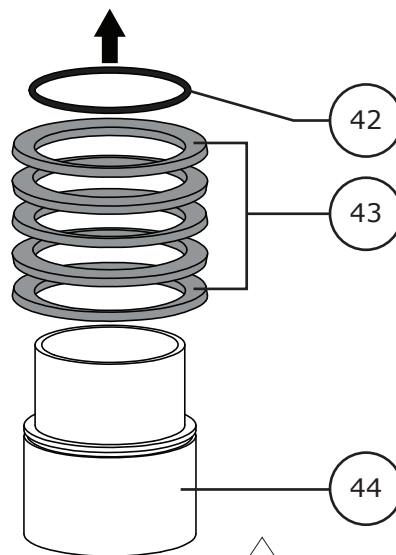

Figure 19 Spring Pack Assembly Separation Example
- 3 Separate the spring pack components by removing the packing flange O-ring (Key 42) then separating the spring washers (Key 43) from the packing follower (Key 44). Refer to Figure 19. **NOTE:** Record the number of spring washers, their order and the orientation they were stacked in for re-assembly purposes.